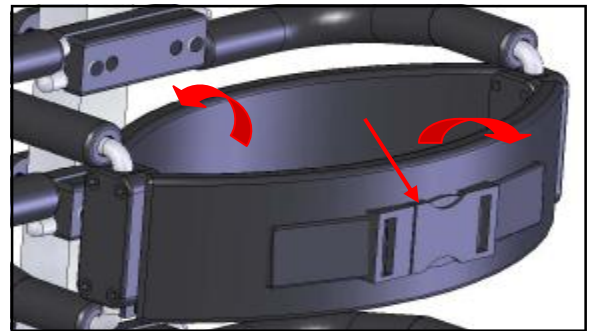

Figure 9
Refer to Figures 9 & 10.
1. To achieve forward tilt of the upper body, unfasten the trunk support straps, shorten the back strap, and lengthen the front strap. Lengthening the back strap and shortening the front strap tilts the upper body upright. Figure 9